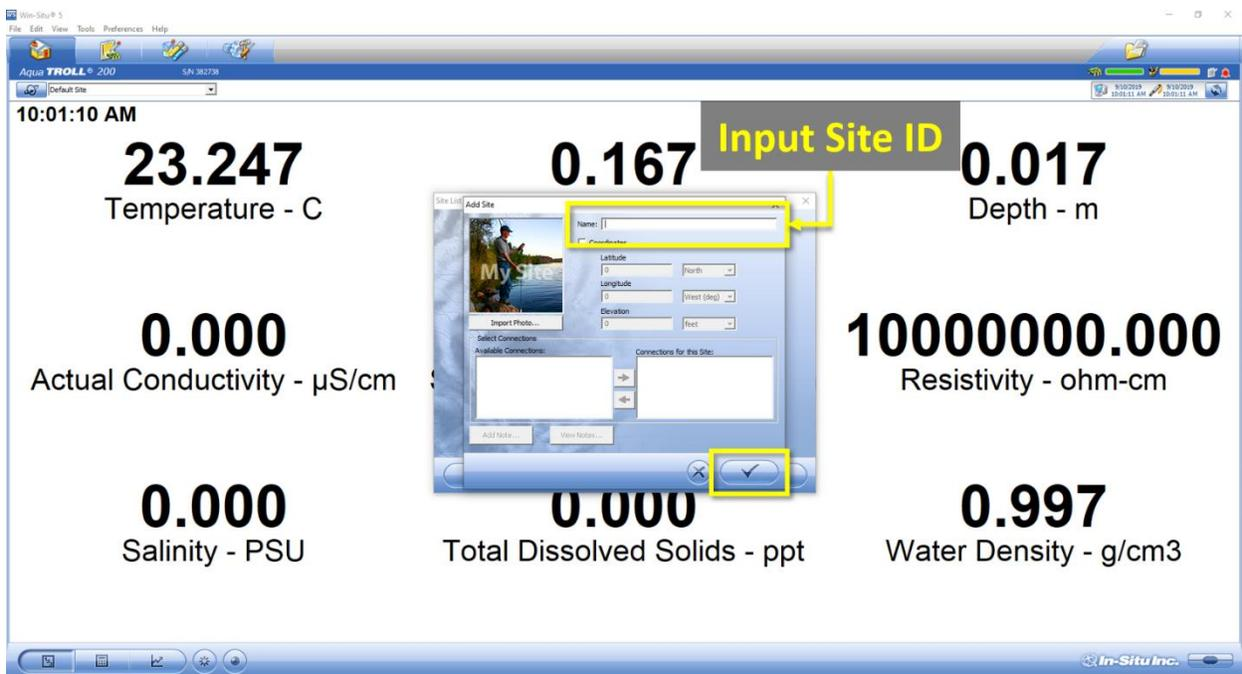

Figure 37. Input Site ID in Name Field and then Select the Checkmark to Save the Site to the Site List
2. In the **Add Site** pop-up window, enter the site ID for the site that is missing from the dropdown options (Figure 37), for example, SYCA is the site ID for Sycamore Creek. Only the **Name** field is required. Click on the checkmark to save the site name to the **Site List**.